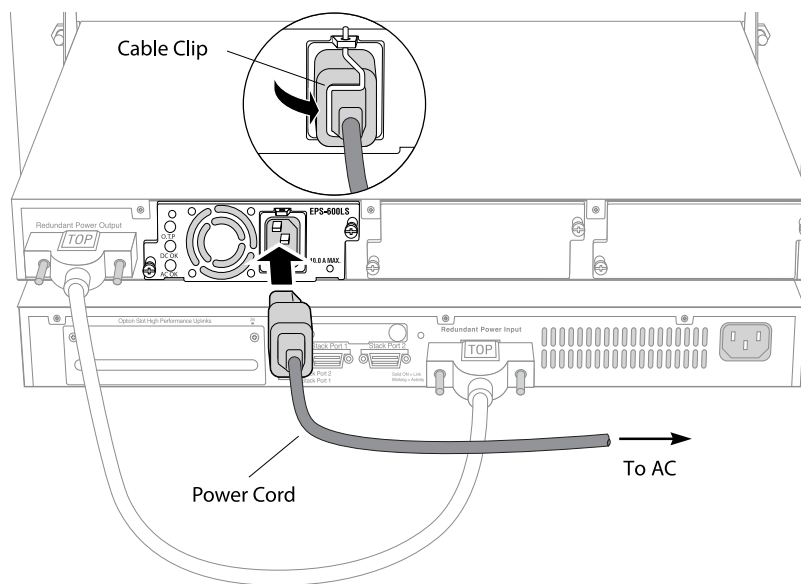

Figure 312: Connecting the AC Power Cord
- 5 Connect an appropriate AC power cord to the AC connector on the EPS-600LS unit (see Figure 312: Connecting the AC Power Cord on page 340).
Use the cable clip on the EPS-600LS unit to hold the AC power cord in place (see Figure 312: Connecting the AC Power Cord on page 340).